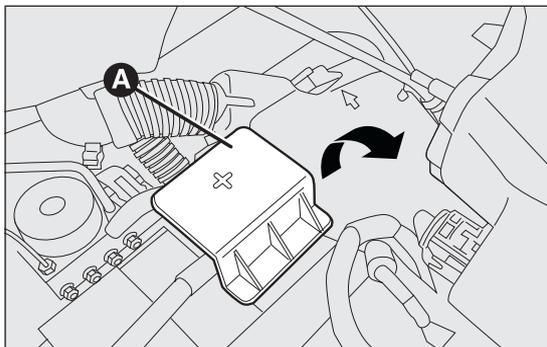

fig. 158
- remove protective lid A fig. 158 from the positive battery terminal by lifting it upwards;